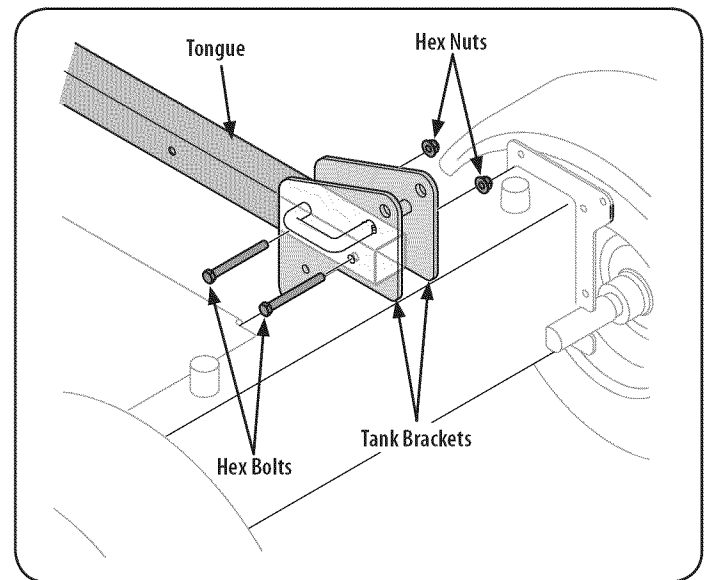

Figure 3
12. With the log splitter still secured to the bottom of the crate, remove two hex bolts and hex nuts from the tank bracket and remove the piece of wood inside the tank brackets. See Figure 3.
13. Align the holes in the tongue with the holes in the tank bracket and secure with the hex bolts and nuts just removed. See Figure 3.